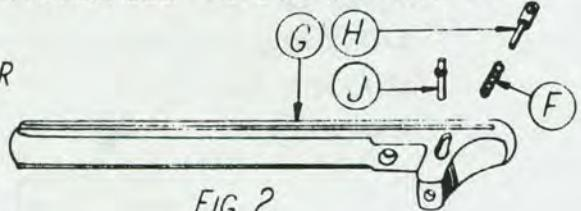

FIG 2
INSERT SPRING (F) IN OPERATING HANDLE (G), FIG. 2. WITH COUNTERSUNK SIDE OF HOLE UPWARD, INSERT PLUNGER (H), DEPRESSING SPRING (F) UNTIL PIN (J) CAN BE INSERTED.